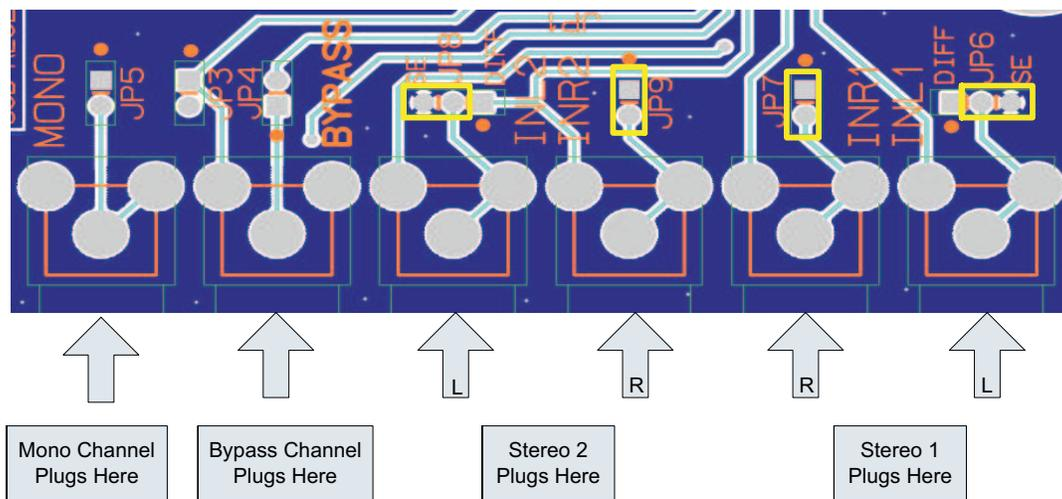

Figure 2. Non-Differential Mode Input Configuration
JP6, JP7, JP8, JP9	As shown in Figure 2
b. **For single-ended modes**, install shunts and connect RCA plugs as shown in Figure 2.